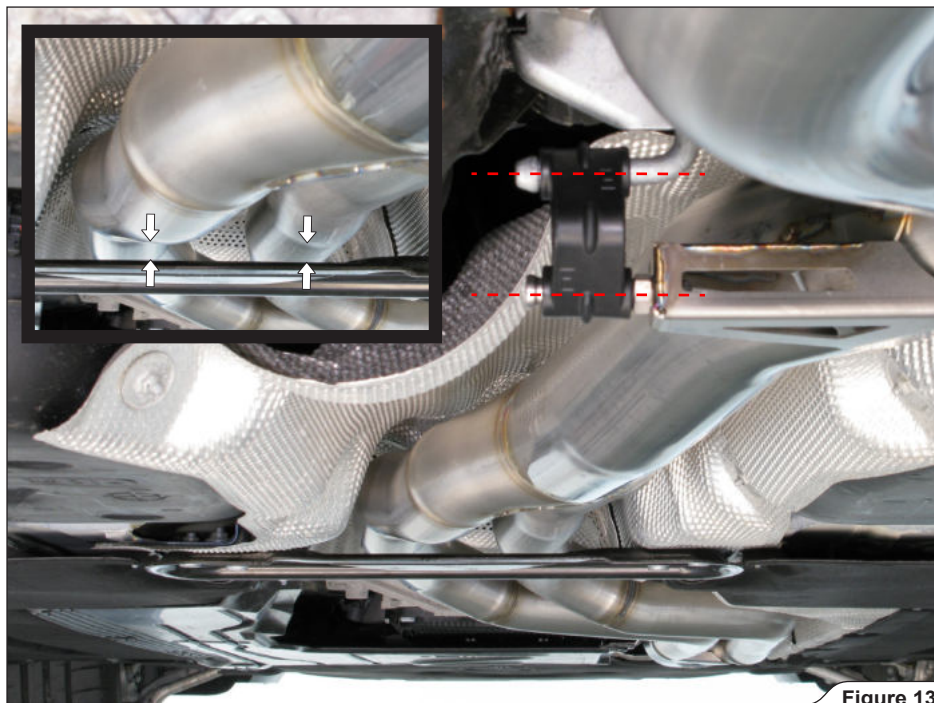

Figure 13
- Adjust and align the link pipe in respect to the chassis reinforcement and tighten the stock clamp to the specified torque (**Figure 13, 14**).